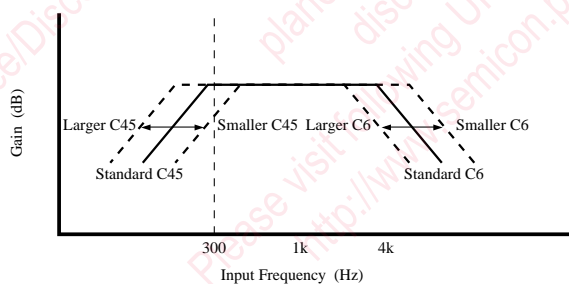

Fig.2—3 HS Mode Transmitter Frequency Characteristics
- For the high-pass filter, the larger the C45 capacitance, the lower the cutoff frequency, or the smaller the capacitance, the higher the frequency. See Fig.2—3.